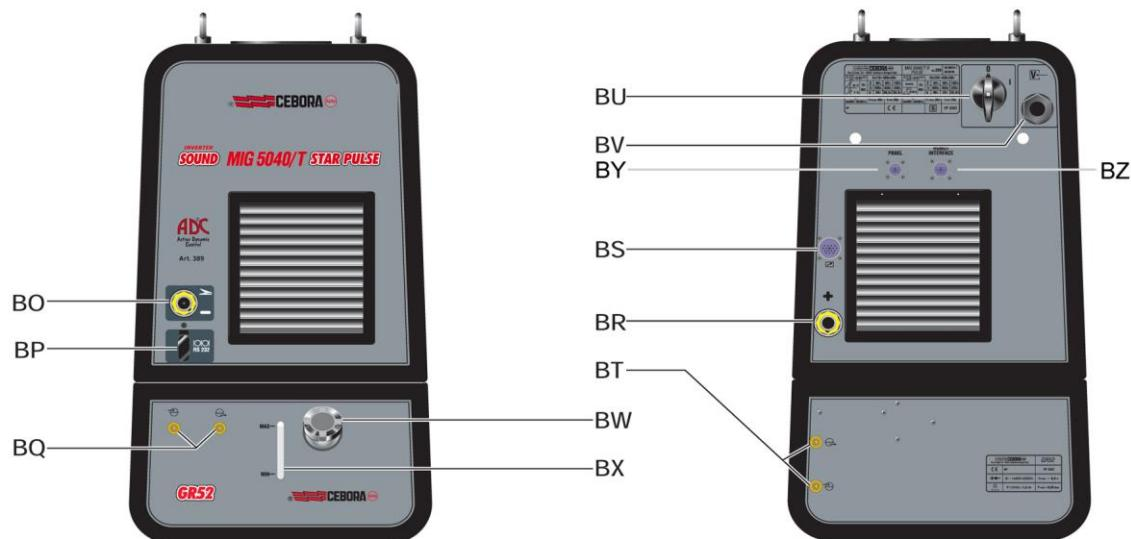

fig. 3
Power up the Welding System using the switch **BU** of the Power Source (fig. 3).
3.3 Setting up the cooling unit (fig 3).
4.2 Power Source description (fig. 3).
5.2 Cooling Unit description (fig. 3).